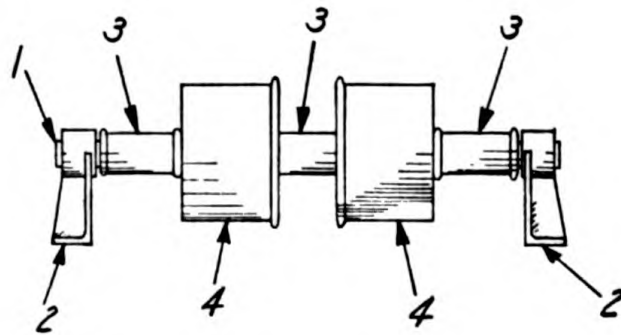

Figure 82. Bucket line idlers.
The two bucket line idler assemblies (Figure 82) support the uprun side of the bucket chain. The idlers are spaced an equal distance along uprun side of the elevator frame. The idler shafts (1) are held stationary in upright supports (2) by set screws.